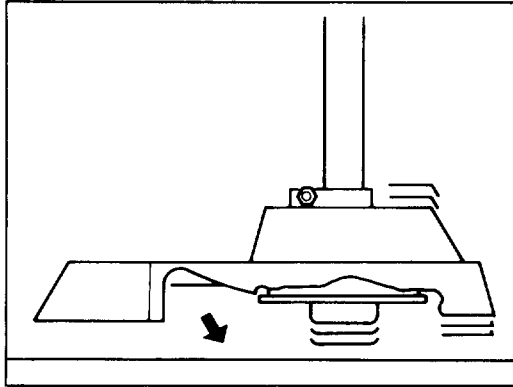

Figure 9
LENGTHENING CUTTING LINE (Fig. 9)
1. To lengthen line, firmly tap spool on the ground while the engine continues to run at normal cutting RPM (Fig. 9). The line will be fed from the spool and cut off to the proper length by the cutting knife attached to the shield.